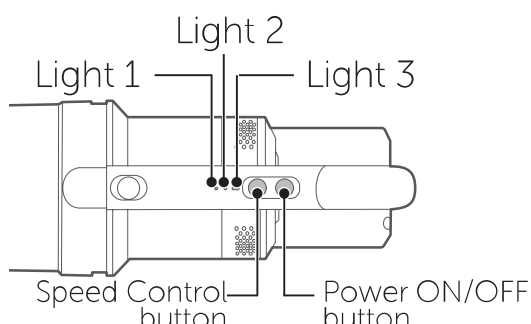

Fig. 2
Press the "Speed control button" once for High Speed (Light 1 and 2 is on and Light 3 is blue), and press the "Speed control button" again for Low Speed (Light 1 and 2 is on and Light 3 is off); (Fig 2)
The light indicator show the status (Fig 2):
- Light indicator 1 (Fig 2) will flash when cleaner is running at low battery and needs to be recharged, If recharge not started, the vacuum will power off.